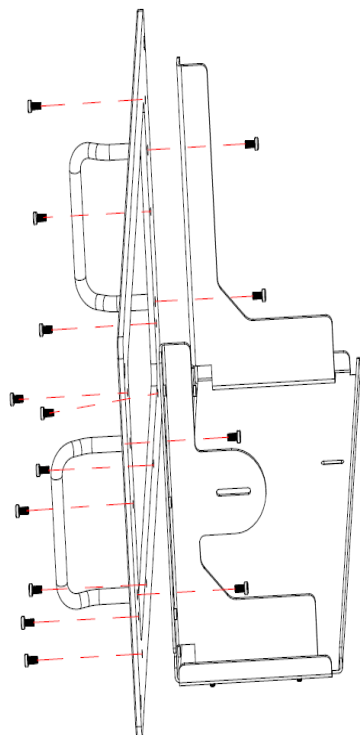

Figure 2
2.安装五金前面板：将五金前面板用 10pcs M4*10 的螺钉将其固定在上一步骤组装好的五金框架上，见图 2；
Install Hardware Front Panel: Fix Hardware Front Panel with 10pcs M4*10 Screw on Hardware Frame which is assembled step by step, as shown in figure 2;
3.安装提手：通过 4pcs M5*10 螺钉，将提手固定在五金前面板上，见图 2；
Install the handle: fix the handle on the front panel By 4pcs M5*10 screws, as shown in figure 2;